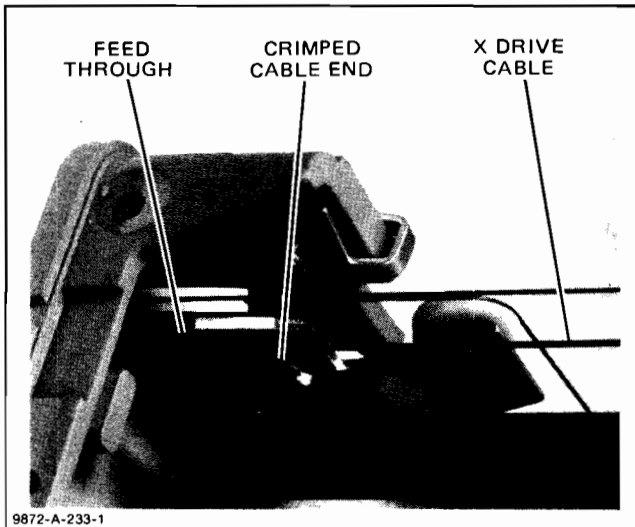

Figure 6-25. Upper Right X Drive Cable Termination
- d. Unhook the X-drive cable from the two termination brackets, and remove the cable from the plotter. See Figures 6-25 and 6-26.
- g. From pulley #2, thread the crimped end of the cable through the feed-through and back to the upper right bracket, and anchor the crimp. See Figure 6-25. Cut off excess cable.